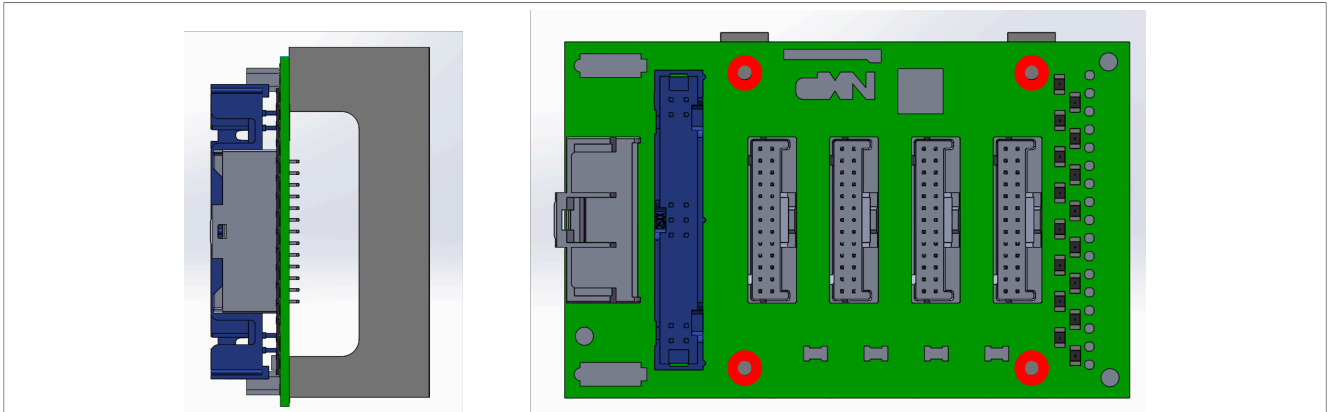

Figure 15. Battery extender mounting procedure
2. Mount the battery extender to the 60 mm side parts using four screws (280-76355) according to Figure 15.